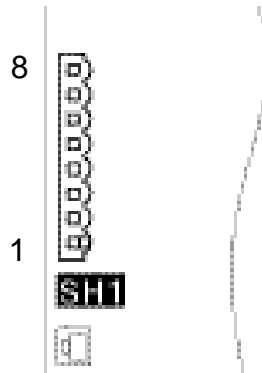

Figure 11-3
5. With the exception of the end units, the SH1 jumper, located on the controller board assembly must be removed. (See Figure 11-3)